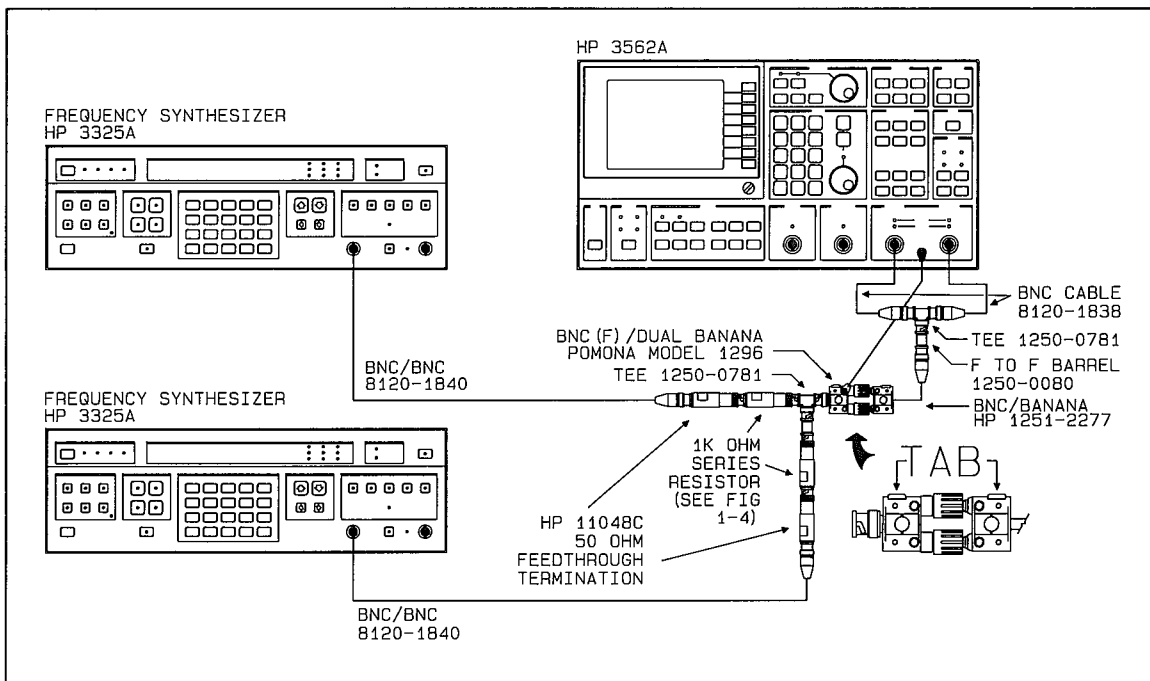

Figure 2-23 Intermodulation Distortion Test Setup #1
A. Connect the test instruments as shown in figure 2-23. Keep the connecting cables as short as possible. Refer to "Initial Equipment Setup," paragraph 2-20, for unspecified parameters.
G. Connect the test instruments as shown in figure 2-23.